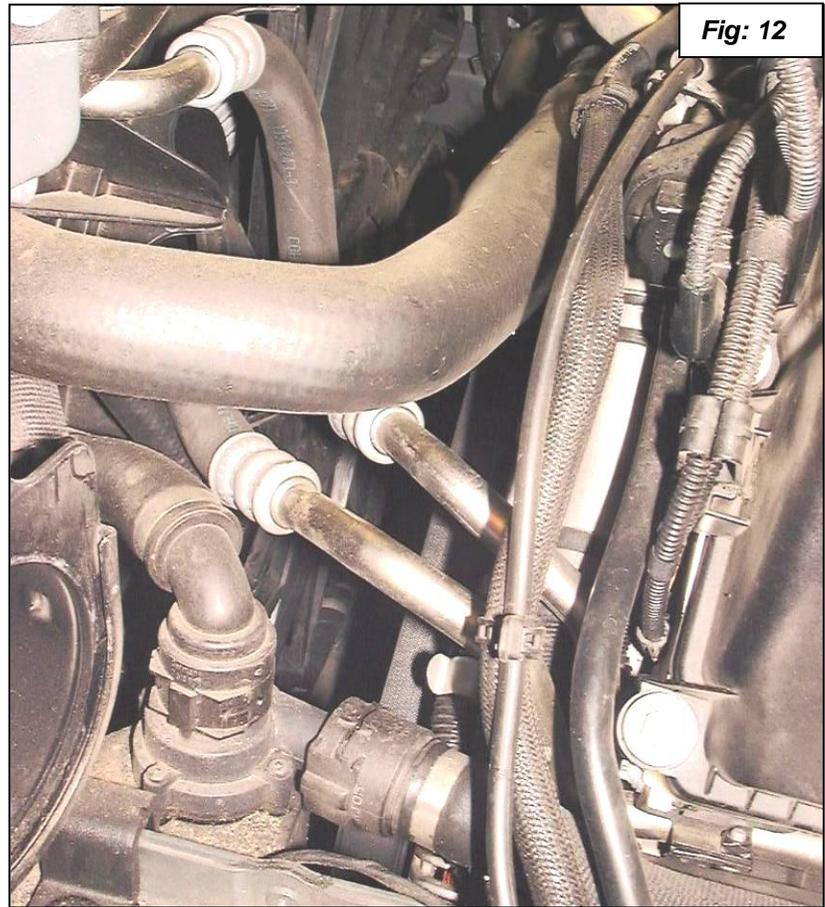

Fig: 12
11. The oil cooler lines need to be bent down slightly to make room for the extra air inlet tube. The inlet tube goes between the radiator hose and the oil cooler lines. See figure 12. Figure 13 shows how the extra inlet tube gets routed between the radiator hose and oil lines into the lower half of the Dinan Air Box.